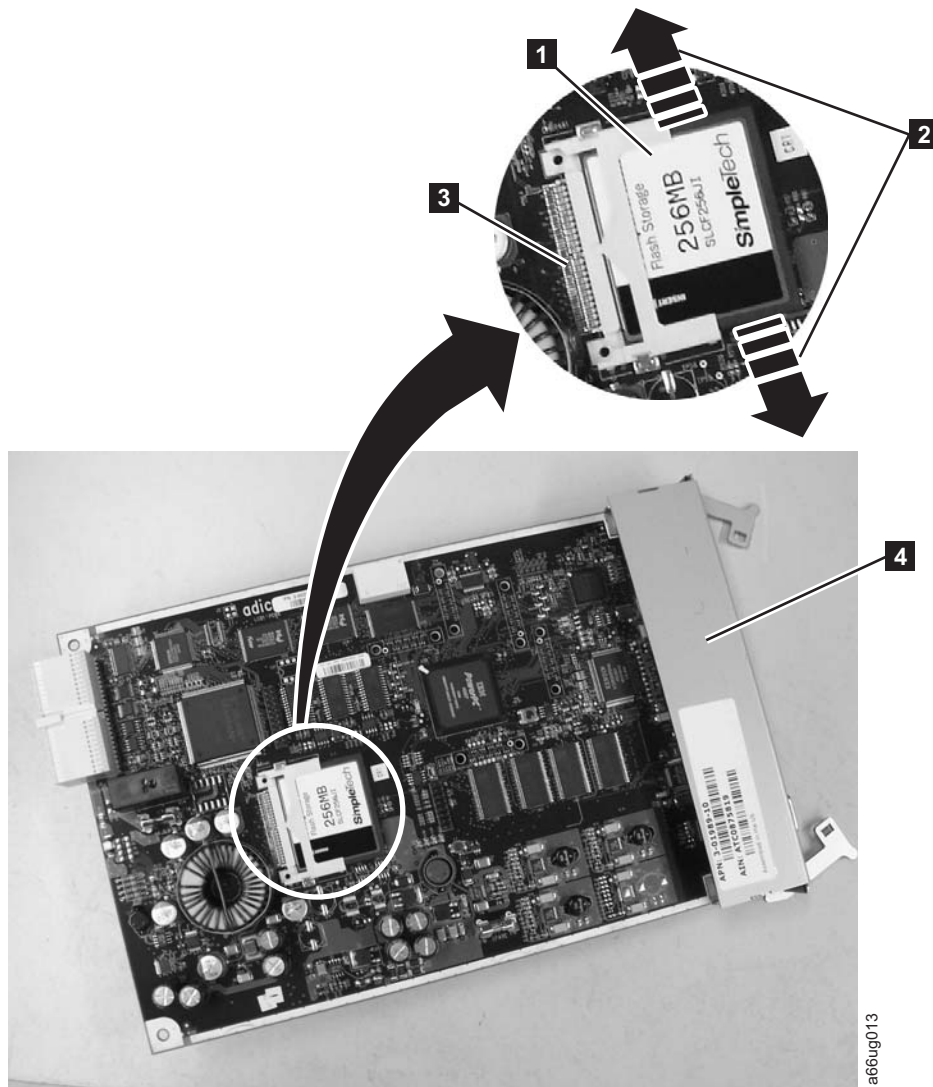

Figure 8-39. Removing the Compact Flash Card from the Library Control Blade
1. Locate the compact flash card component on the LCB board (**1** in Figure 8-39).
2. Without touching any other components on the LCB firmware board, carefully grasp the compact flash card and wiggle it using a gentle, side-to-side motion (**2** in Figure 8-39) until the pins on the compact flash card become disconnected from the pins on the LCB board (**3** in Figure 8-39). Then, slowly slide the compact flash card out of the guide slots.
4. If you are installing a new LCB, continue by transferring the old CF to the new LCB. If you are installing a new CF card, continue by installing the new CF card in the old LCB. In either case, install the appropriate compact flash card to the LCB board you are installing with the label up, and pins aligned. Without touching any other components on the LCB board, carefully grasp the compact flash card, and slowly slide it into the guide slots. Continue to push the compact flash card into the guide slots until the pins start to connect. Then hold the LCB board metal connector shield (**4** in Figure 8-39) with one hand
and push the compact flash card into the connector with your other hand. The compact flash card should be firmly seated against the connector (**3** in Figure 8-39 on page 8-39).